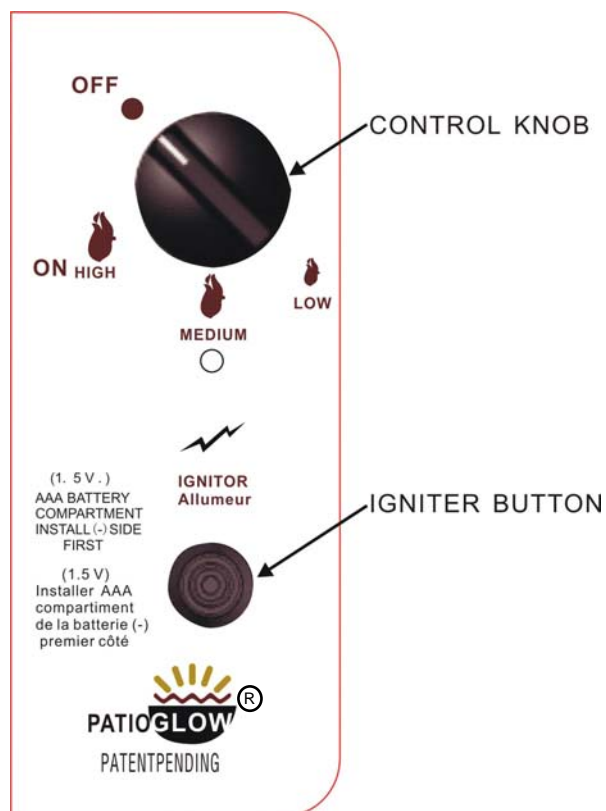

Figure 10
1. Open the tank drawer and find the control panel on the left. Make sure the control knob is in the "OFF" position. See Figure 10. Open the tank valve all the way.
2. Push in the igniter button. You will hear a slight clicking sound. With the igniter button pushed in, push and turn the control knob to the "ON" position. The fire should light within a few seconds. Once the flame is lit, release the igniter button and continue to hold the control knob in for 10 to 15 seconds. Release the control knob. The control knob should pop back out and the fire remain lit. Note: If the fire does not light, turn the knob to the "OFF" position and wait five (5) minutes before trying again.